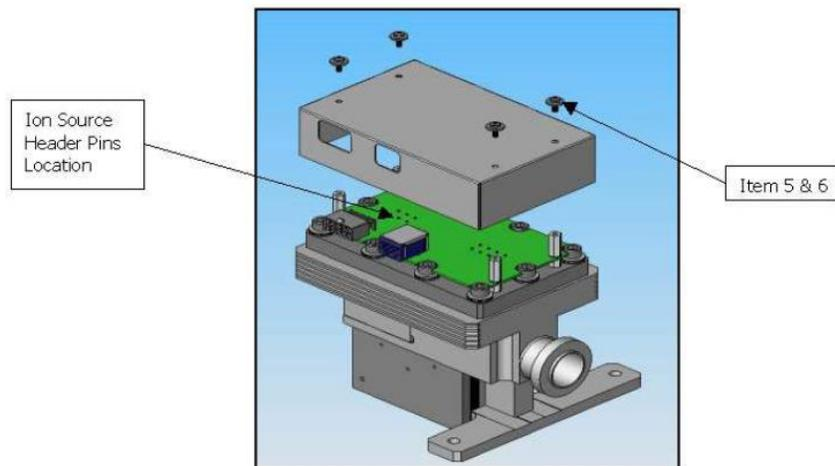

Figure 3-12. Ion source header pin locations
27. Place the spectrometer cover over the header and align the holes (Figure 3-12).
28. Install screws and washers (items 5 & 6), then tighten using a M3 Phillips screw driver (Figure 3-12). Tighten one screw over the ground strap connector.